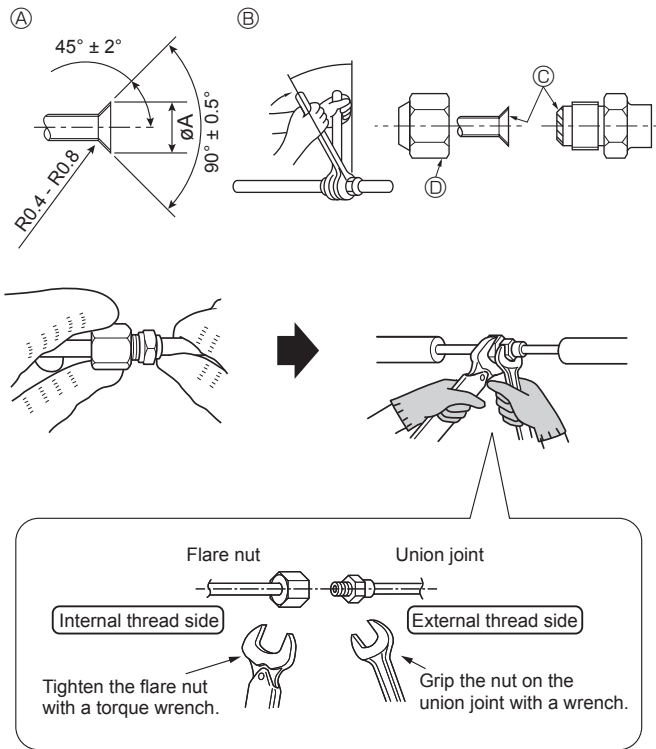

Fig. 4-2
4.2. Connecting pipes (Fig. 4-2)